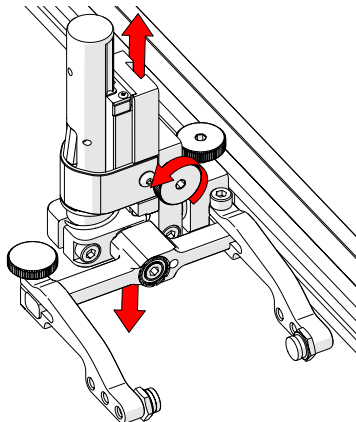

Fig. 42 - Vertical adjustment
2. The vertical adjustment knob allows the vertical probe holder height adjustment (Fig. 42).